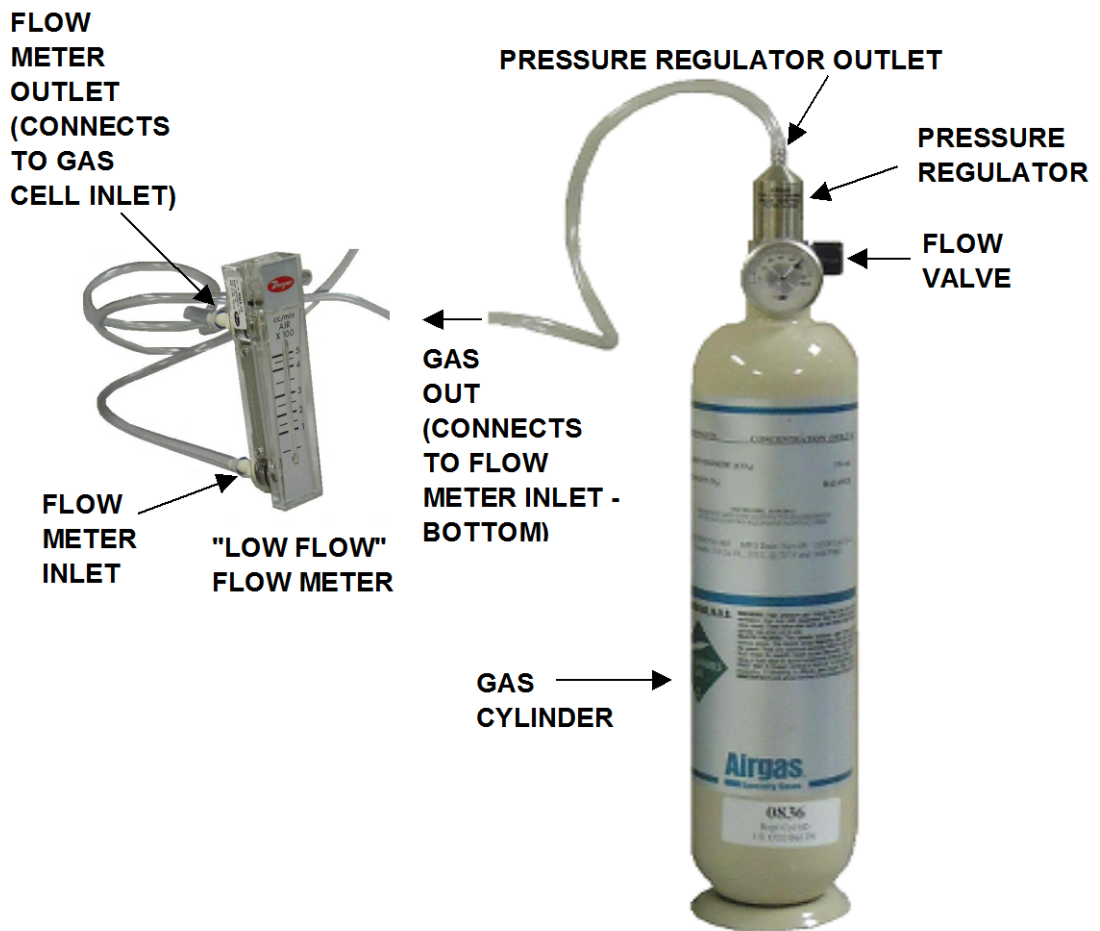

FIG. 1 - CALIBRATION SET-UP
1. Remove the small white plug from the 1/16-inch ID gas calibration tube. Connect the plastic tubing from the flow meter outlet (top connection) to the gas calibration tube. Make sure the flow meter is in the upright position. Refer to FIG. 1 on page 2.